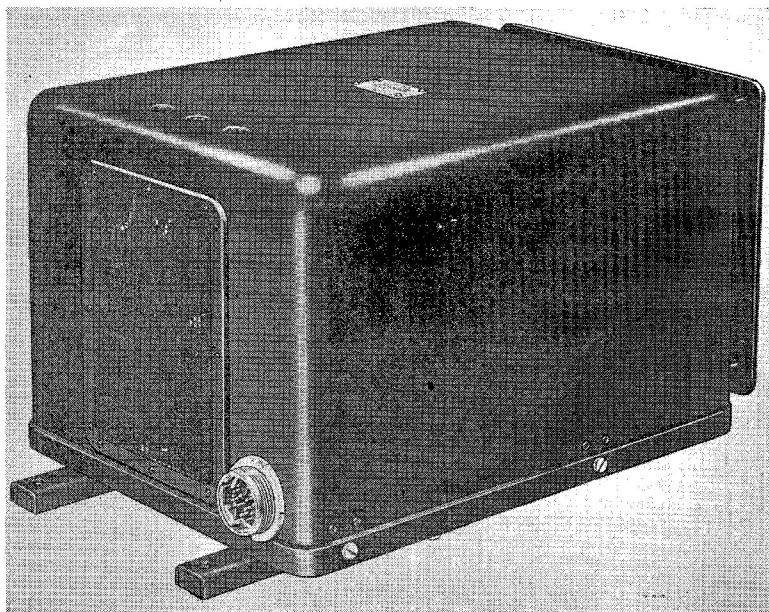

Fig. 1. General view (control panel, Type 15)
2. The control panel (*fig. 1*) is a completely self-contained unit. It is provided with a 12-pole plug for connection direct to the Type 103 inverter, or in some cases to the Type 24 control panel and thence to the inverter.